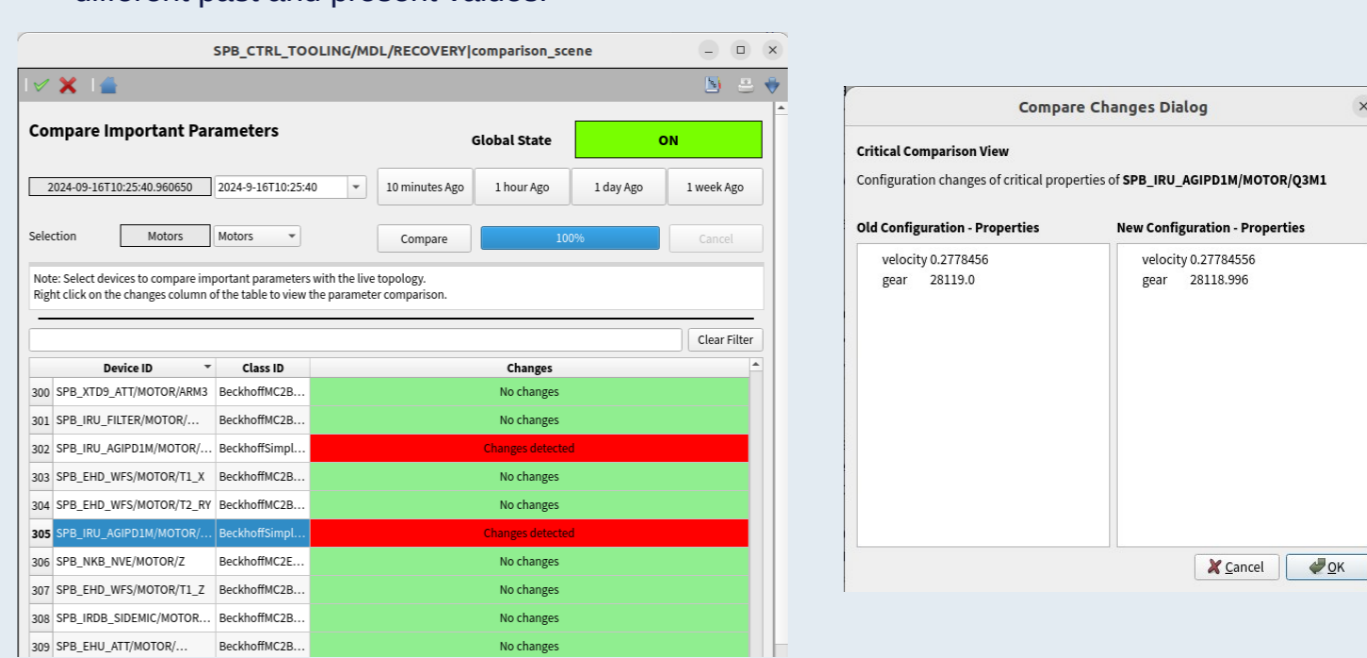

Fig. 3. Comparison of historical and actual device parameters.
- The comparison of device parameters allows to inspect and compare historical and actual device attributes (Fig. 3). Similar to bring up procedure, the user can select a time point in the past and filter devices by type. The device selection contains "Critical Parameter Devices" that will list devices with predefined critical parameters important for the stable operation of instruments. Double clicking on the device row opens a dialog displaying device attributes with different past and present values.